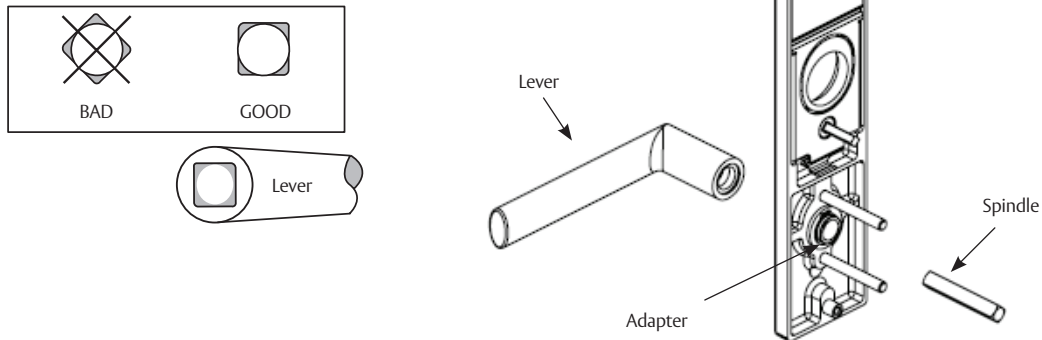

Figure 10
3. Verify correct spindle orientation with the lever held horizontally. (Figure 10)
Use correct spindle orientation. (Figure 10)